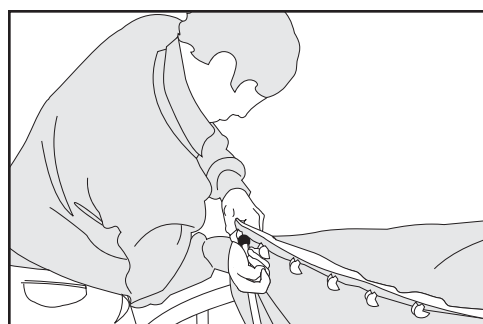

Figure 3: Preferred rod bending technique
1. To release each rod, push the clip lever towards the mat centre, and hold. Then push the ball end of the rod towards the mat centre to disengage it from the socket (Figure 3).
Tip: One method to release a rod is to grip a pair of rods with the right hand while releasing the clip of the upper rod with the left hand. Now by tightening the grip on the two rods the upper rod ball slips out of the socket, while the rod is still held firmly in the hand. From there, the rod can be freed in a safe and controlled manner (Figure 3).